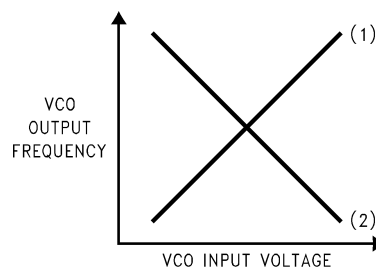

Figure 23. VCO Characteristics
(1) PHASE DETECTOR POLARITY, Depending upon VCO characteristics, R16 bit should be set accordingly: (see Figure 23) When VCO characteristics are positive like (1), R16 should be set HIGH; When VCO characteristics are negative like (2), R16 should be set LOW.
(2) Refer to POWERDOWN OPERATION.
(3) The I_{CPo} LOW current state = 1/4 × I_{CPo} HIGH current.